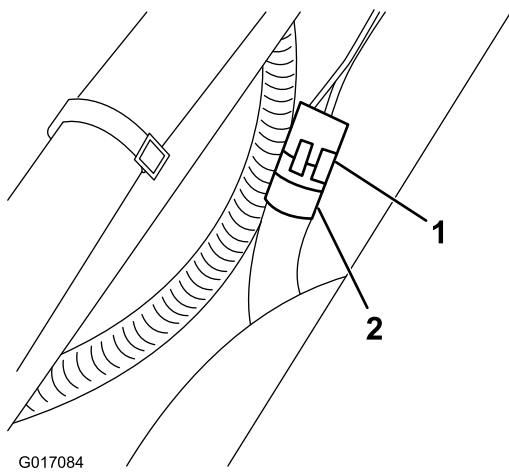

Figure 2
6. Connect the speedometer wire harness to the wheel motor connector using the 3-pin Weather Pack connector end (Fig. 2).